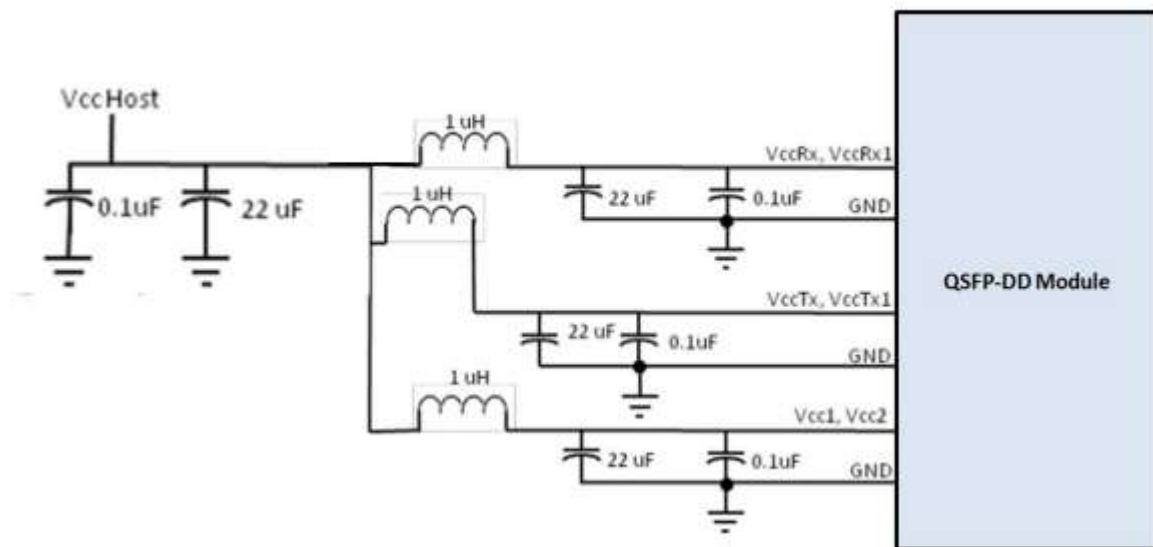

Figure 8 Power supply Filter
2. VccRx, Vcc1 and VccTx, VccRx1, Vcc2 and VccTx1 are the receiving and transmission power suppliers and shall be applied concurrently. Recommended host board power supply filtering is shown in Figure 8 below. VccRx, Vcc1 and VccTx, VccRx1, Vcc2 and VccTx1 may be internally connected within the module in any combination. The connector pins are each rated for a maximum current of 1000mA.